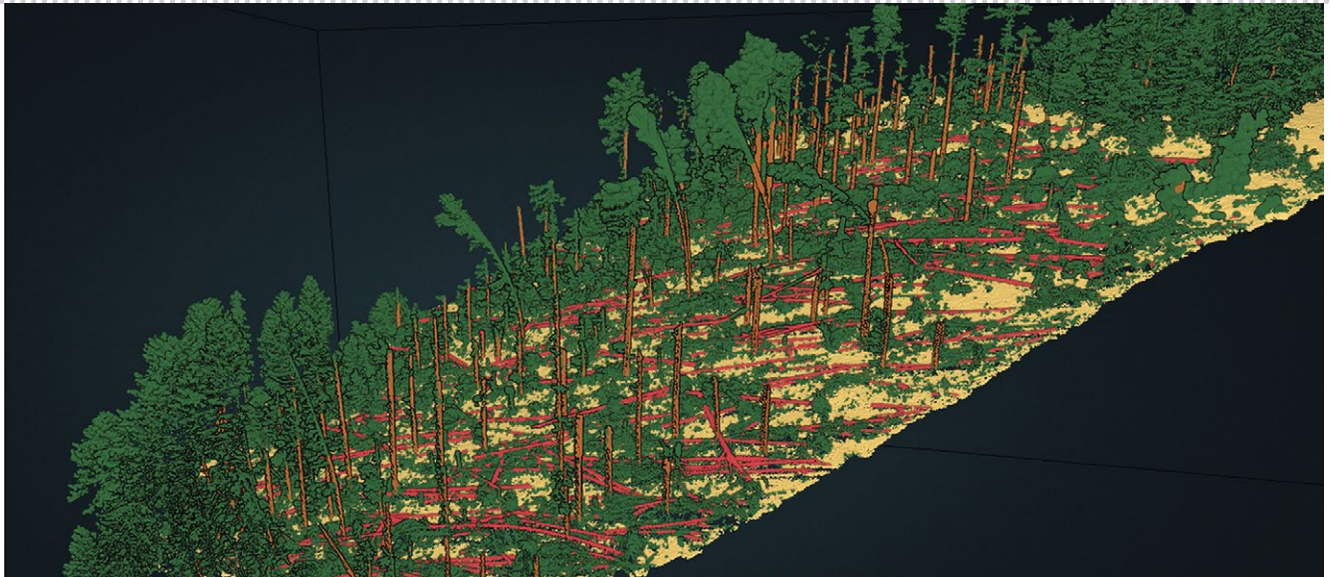

Figure 7: Mapping forest damage: AI classification of standing and fallen tree trunks (SITN-Flai collaboration).
- Classified point clouds and maps of standing and fallen tree trunks (Figure 7).